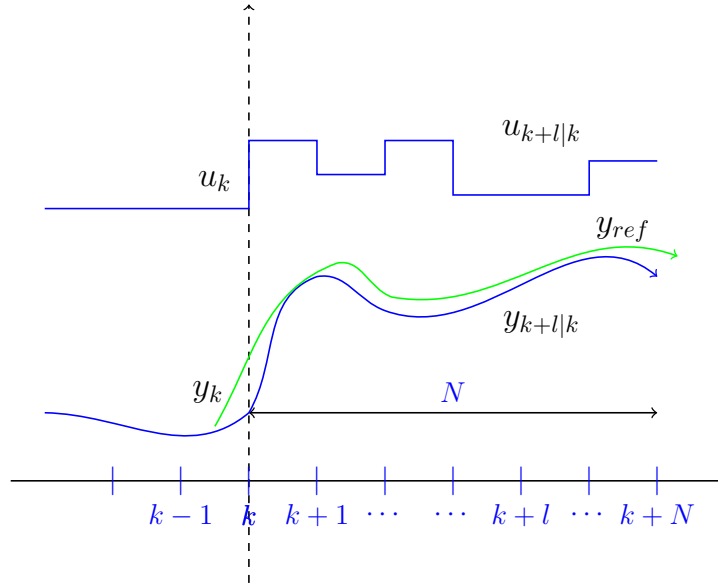

Figure 1: Receding horizon control philosophy.
over a finite horizon N_p . The cost function is comprised of two basic ingredients; namely a terminal cost function $V_f(\cdot) : \mathbb{R}^n \rightarrow \mathbb{R}$ and a cost per stage function $V_n(\cdot) : \mathbb{R}^n \times \mathbb{R}^m \rightarrow \mathbb{R}$. Typically, in MPC, the objective (or cost) function (1) penalizes deviations of the states and inputs from their reference values, while the constraints are treated *explicitly* [3]. By solving (1), each optimization generates an open-loop optimal control trajectory taking into account the system dynamics described by $f(\cdot, \cdot)$, generally with the additional property that $f(0,0)=0$, the constraints on the states and control inputs $h(\cdot)$ and terminal constraint $h_f(\cdot)$. Then, applying only the first part of the trajectory to the system, based on measurement and recomputing, results in closed-loop control (see, Fig. 1 which illustrates very well the receding horizon strategy).